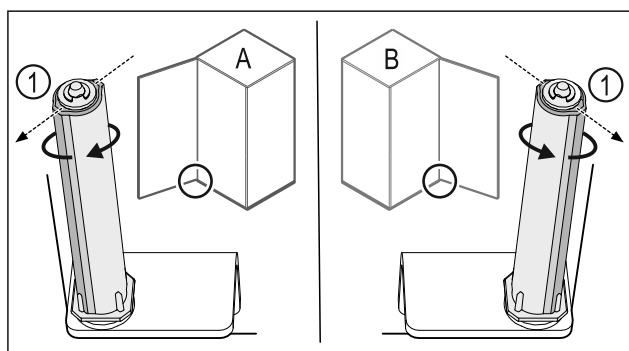

Fig. 19 Left-hinged (A) / Right-hinged (B)
- Turn the closing system against the resistance until the bar of the closing system Fig. 19 (1) points outwards.